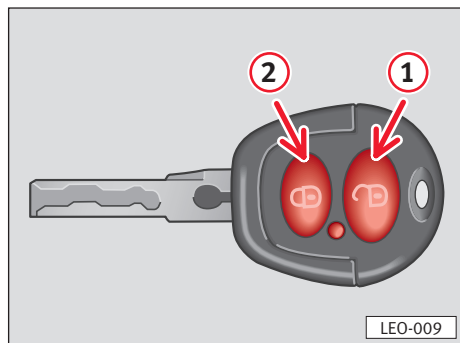

Fig. 51
- Both vehicle keys, the key with the **radio transmitter** (A) and the conventional key (B), must be used.
- Use key (B) to switch on ignition and key (A) to program.
- Place key (B) in the ignition and switch on.
- Use key (A) to lock the driver's door manually.
– Now **unlock** and **lock** manually the driver's door with key (A) while pressing button (1) **open** ⇒ fig. 51.